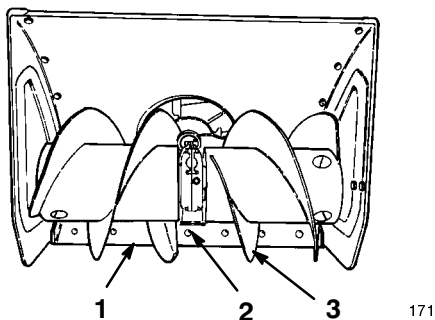

Figure 9
2. Move the snowthrower onto a flat surface and make sure that the scraper (Fig. 9) is parallel to the ground. If it is not, adjust the scraper; refer to *Adjusting the Skids and the Scraper* on page 23.